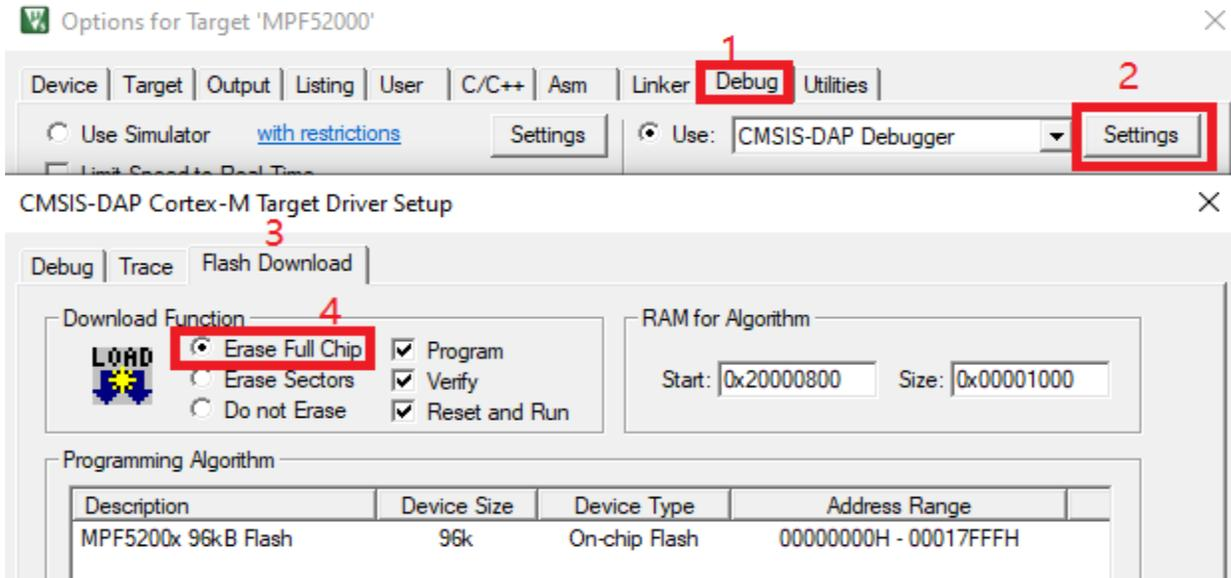

Figure 9: Erasing Data in the Customer-Defined MTP Range
5. To erase data in the customer-defined MTP range, set the download function. Erase the full chip using a Jlink tool (or another SWD tool). After re-downloading the PD firmware, the old MTP values are cleared (see Figure 9).